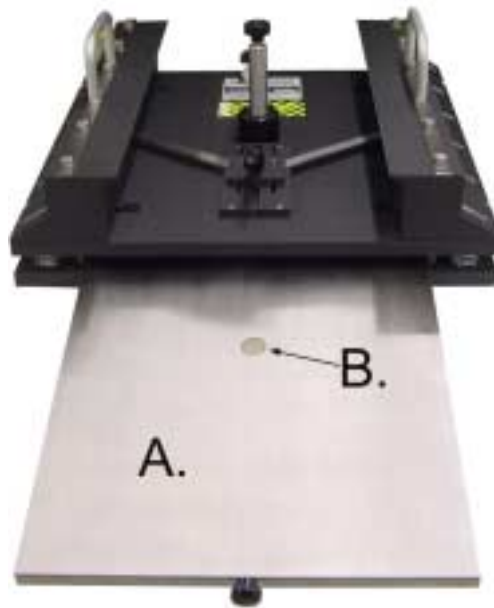

Figure 1.
- Use the black knurled knob on the stainless steel shuttle tray to pull it out. (Figure 1. A.) Place the flexible package onto tray lining up the desired puncture site with the alignment hole (Figure 1. B.)